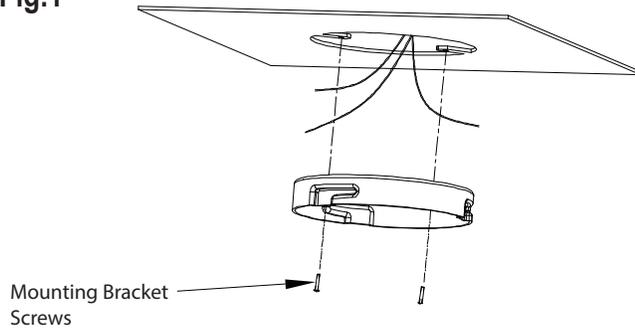

Fig.2
5. Connect the electrical wires as shown in Fig.2 ensure that all colored liked wires are connected and secure by wire nut (Fig.2).